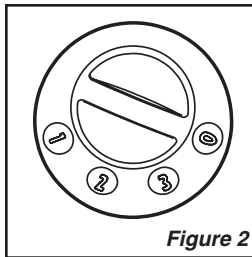

Figure 2
5. Turn the Fan ON by selecting the desired speed with the Power Knob on the top of the Fan. (Figure 2)